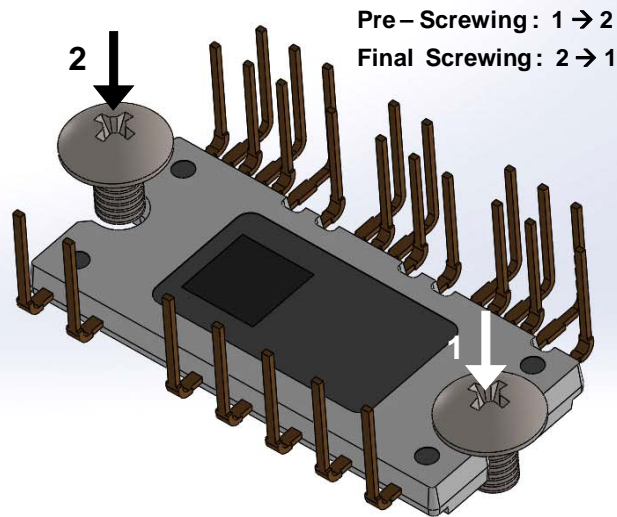

Figure 10. Mounting Screws Torque Order
- 10. Avoid one side tightening stress. Figure 10 shows the recommended torque order for mounting screws. Uneven mounting can cause of package to be damaged.